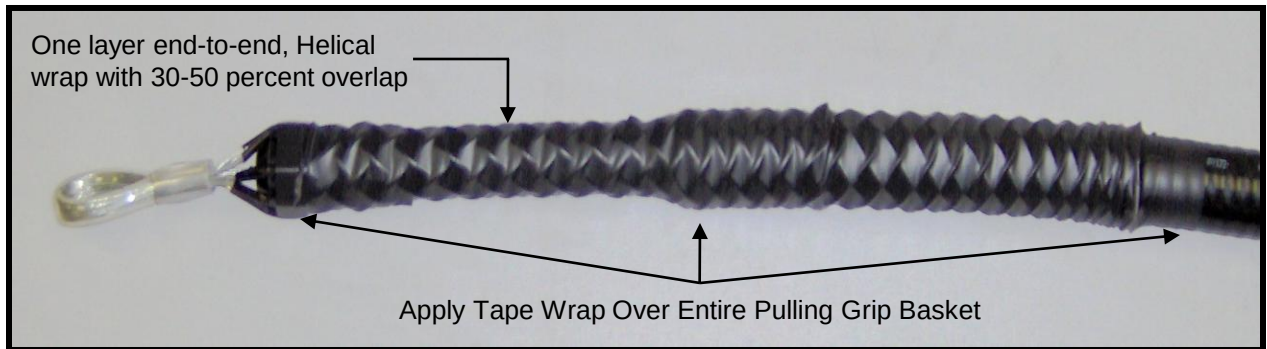

Figure 11
6.9 Apply Vinyl Electricians or Duct Tape over the entire length of the Pulling Grip's basket. Start the wrap on the outer jacket of the cable and move to the head end of the cable. Apply one layer of tape end-to-end with a Helical wrap and a 30-50 percent overlap. **See Fig. 11.**